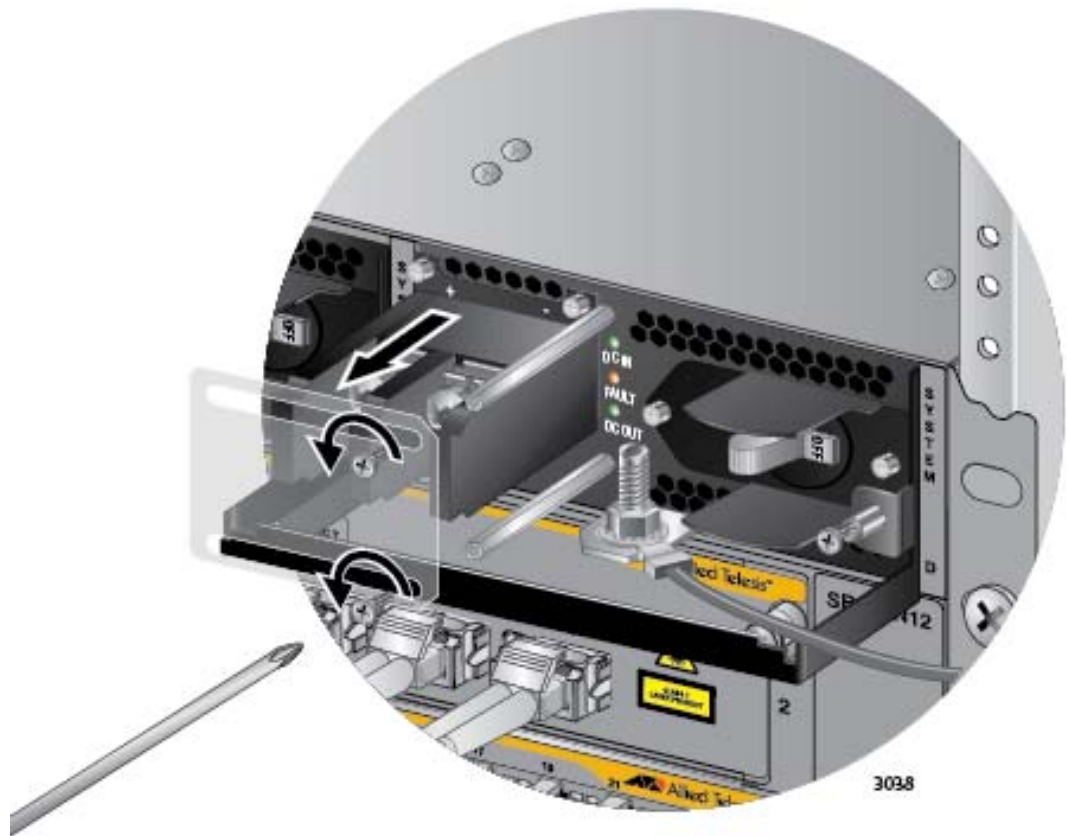

Figure 131. Removing the Plastic Cover
- Using a #1 Phillips-head screwdriver, remove the two screws that secure the plastic cover over the positive and negative terminals and remove the plastic cover from the power supply, as shown in Figure 131. You may need to lift the locking handle slightly to access the bottom screw.